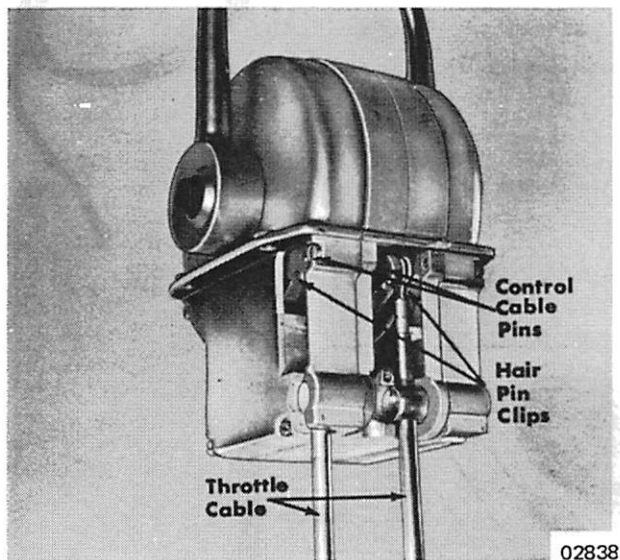

Figure 1. Throttle Cable Installed
2. Move both control handles to vertical (neutral) position. (Figure 1)